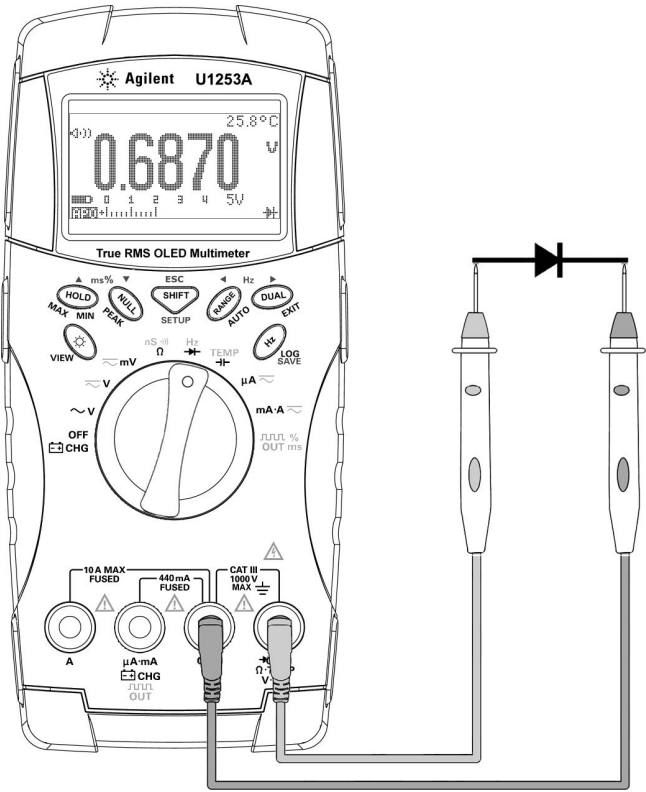

Figure 2-10 Measuring the forward bias of a diode
- 3 Connect the red test lead to the positive terminal (anode) of the diode and the black test lead to the negative terminal (cathode). Refer to Figure 2-10 on page 46.